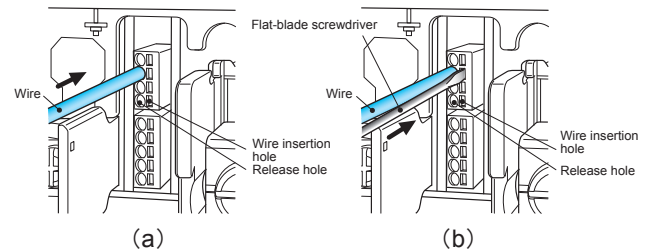
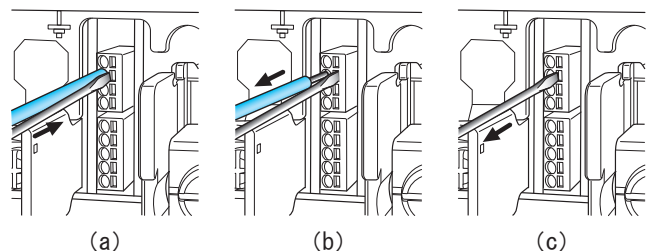

Fig.6.11 Connecting method of Ferrule terminal and Solid wire
Fig.6.12 Releasing method of Ferrule terminal, Solid wire and Stranded wire
- Fig.6.11 and Fig.6.12 is the how to connect/release the wire.
Step1: Insert the wire until the electrode is not visible. (Refer to the fig.6.11(a).)
Inserting a flat-blade screwdriver into the release hole makes it easier to insert. (Refer to the fig.6.11(b).)
- Step1: Insert a flat-blade screwdriver into the release hole. (Refer to the fig.6.12(a).)
- Step2: Remove the wire with the flat-blade screwdriver inserted in the release hole. (Refer to the fig.6.12(b).)
- Step3: Remove the flat-blade screwdriver from the release hole. (Refer to the fig.6.12(c).)